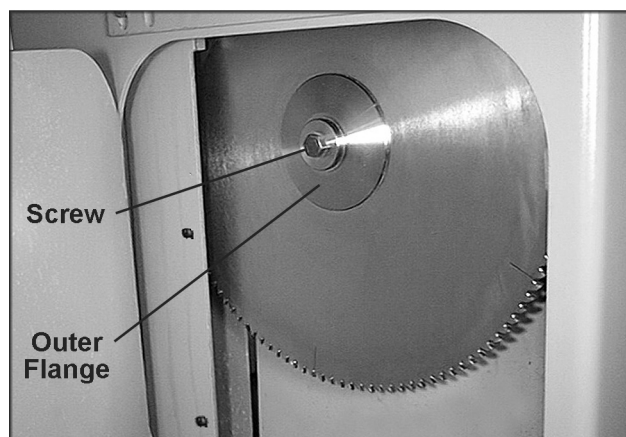

FIGURE 7
4. Loosen hex screw (Fig. 7) on the arbor. (counterclockwise to loosen on the LH model; clockwise on RH model). Remove hex screw and outer flange from the arbor.